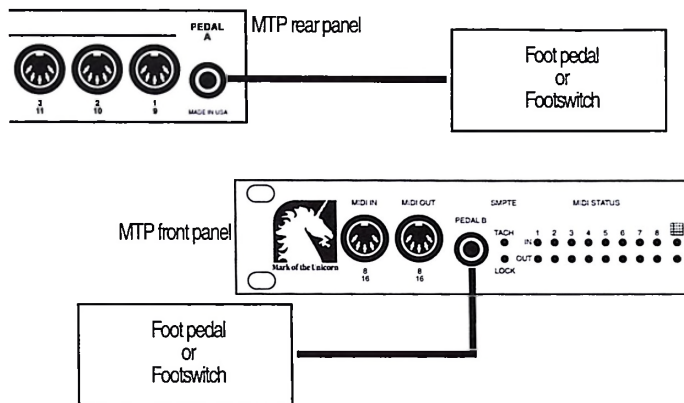

Figure 1-6: Connecting foot pedals or footswitches to the MIDI Time Piece.
6. If you would like to use a foot pedal or foot switch with the MIDI Time Piece, connect them as shown below in Figure 1-6.